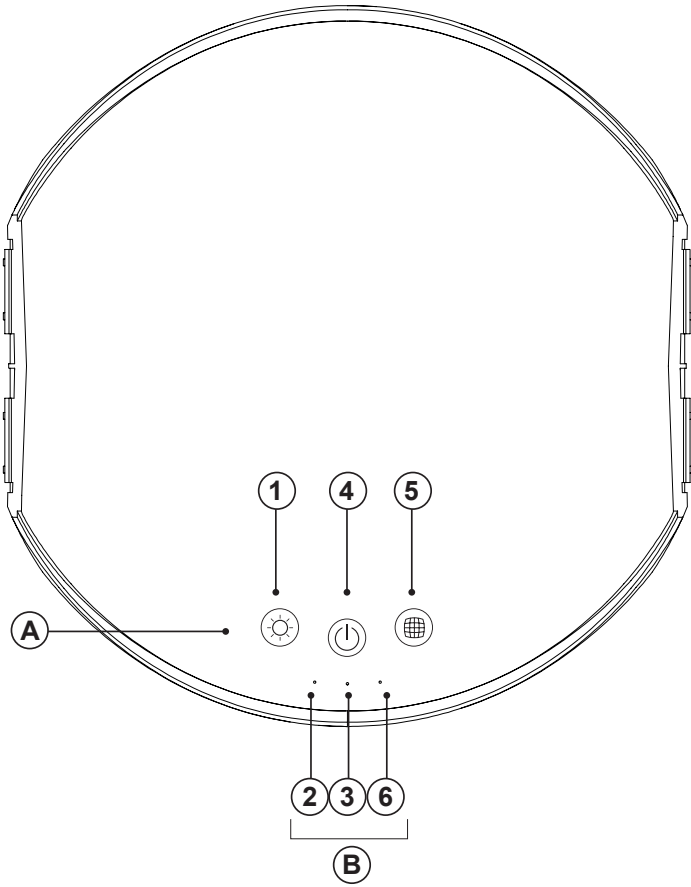

Fig.1
- ◆ Pull the rear cover handle to remove it (FIG1)